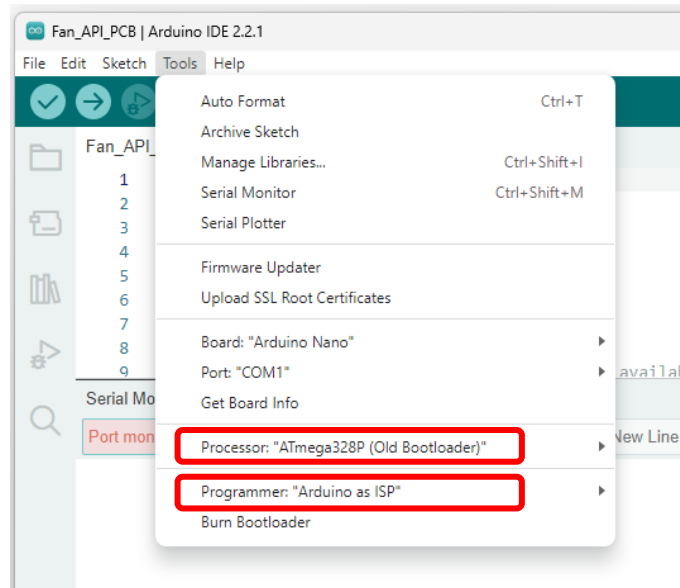

Figure 1.11 Settings for Processor and Programmer
- Go to *Tools >> Processors* and select “ATmega328P (Old Bootloader)” as shown in Figure 1.11. Some modules require the new bootloader. In that case, select “ATmega328P” as the processor. You will find out the bootloader you need in a later step when uploading the sketch to your module.
- Go to *Tools >> Programmer* and select *Arduino as ISP* as shown in Figure 1.11.